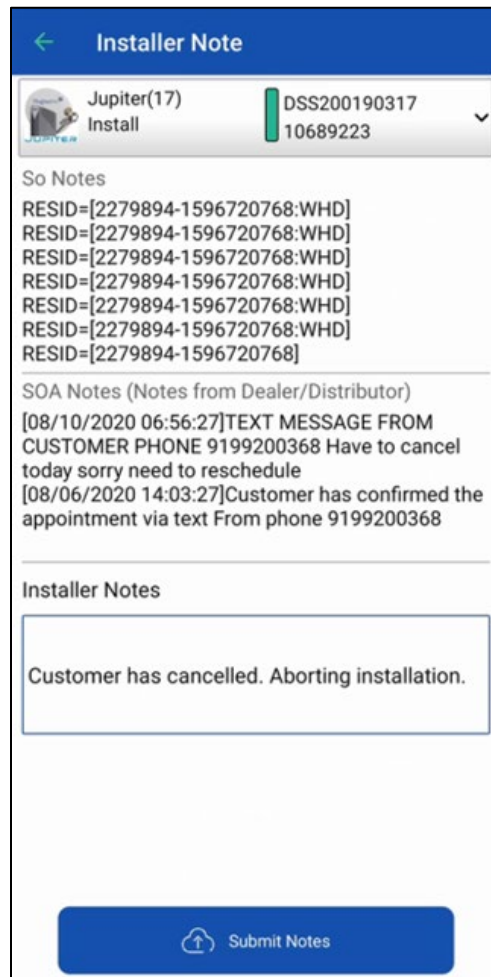

Figure 17: Installer notes
- **Notes** (📄) – At any point during the workflow, you can enter notes about the order by tapping the **Notes** icon (Figure 17). You will also see any other notes that were entered for the work order.